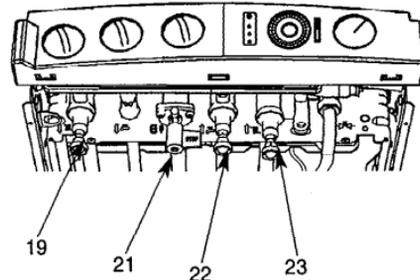

Fig. 23
- 2) Check that pressure in central heating system is above 0.7 bar and below 2.5 bar with the pressure gauge  (43 fig. 23).
- 3) Open the gas tap (21 fig. 23) by turning from right to left.
- 2) Turn the gas tap (21 fig. 23) from left to right "STOP".